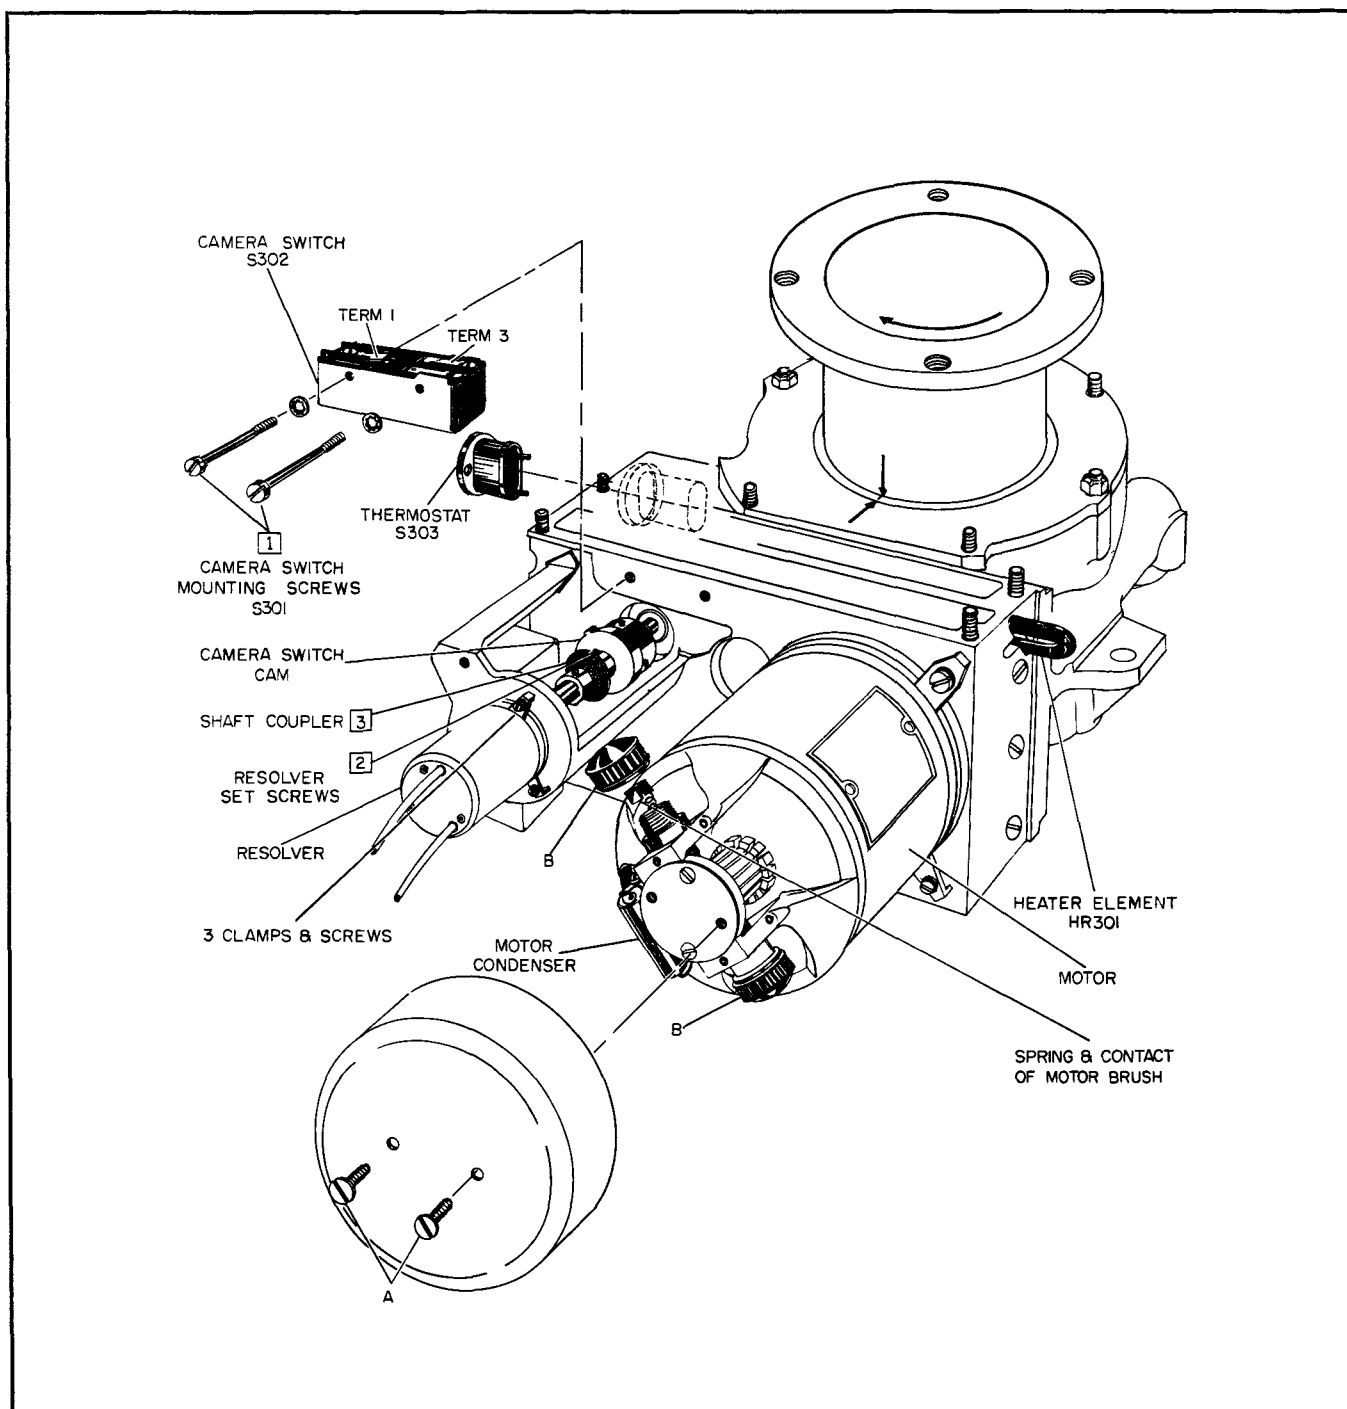

Figure 6-5. Antenna Drive TG-23/ALA-6, Partial Disassembly
Step 3. Remove the sheet-metal frame, exposing the motor, resolver, etc., as shown in figure 6-5.
Step 4. Remove camera switch S302 by removing the screws at 1, of figure 6-5.
Step 5. Remove resolver-holding brackets and screws and loosen two setscrews (item 2) in resolver shaft coupling (item 3) and remove resolver (after detaching wires).
Step 2. Remove motor brush housing by unscrewing screws A of figure 6-5.
Step 3. Unscrew each brushholder cap, B of figure 6-5, take hold of the contact, and slide the brush out of its holder.
- Step 2. Unsolder and replace the motor condenser (figure 6-5).